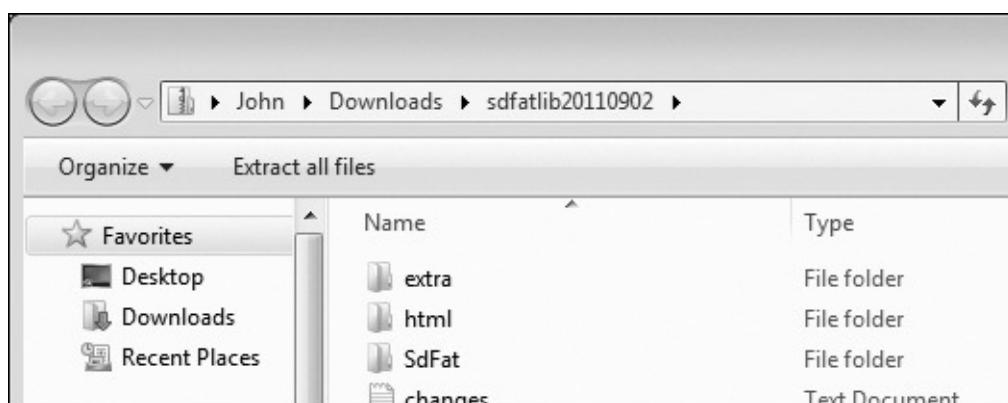
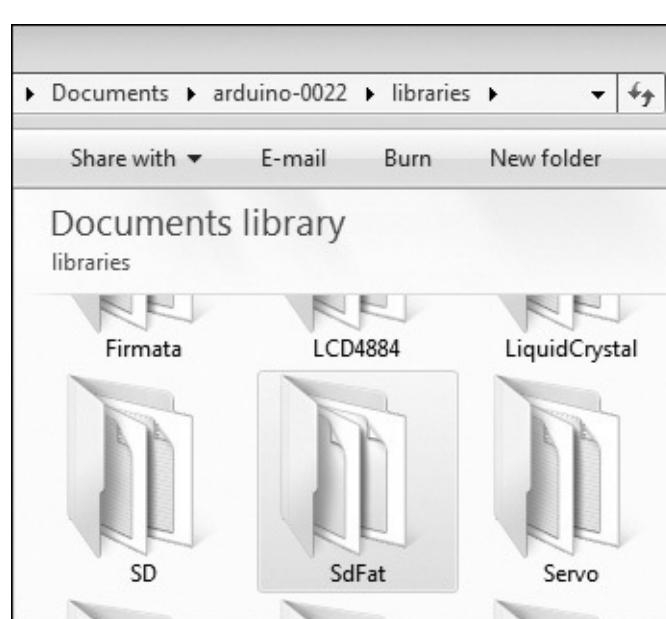

Figure 8-19. Downloaded library folder
Figure 8-20. Completed library installation
1. After the download has completed, open the downloaded file folder to reveal its contents, and then locate the *SdFat* folder, as shown in Figure 8-19.
2. Copy the *SdFat* folder from the window shown in Figure 8-19 to your *Arduino/libraries* folder, as shown in Figure 8-20.